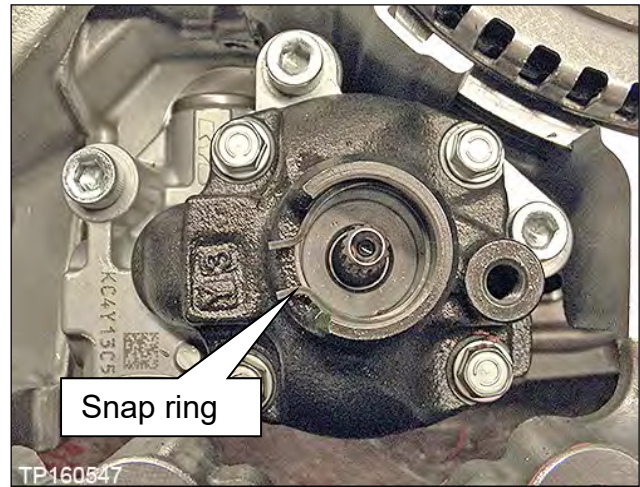

Figure 62
45. Install the new snap ring (Figure 62).